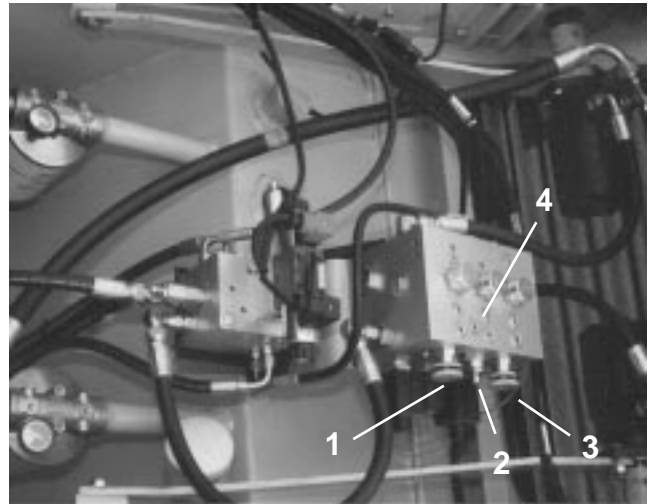

Figure 33 Conveyor and Spreadroll Manifold
1) To adjust the speed of the conveyor (left or right) loosen jam nut by hand on the flow control valve for the conveyor to be changed (Fig 33 Ref 1 & 3). The adjustments are located on the conveyor manifold on the hydraulic reservoir. Turn the aluminum knob attached to the set screw clockwise to decrease conveyor speed or counterclockwise to increase speed. Hand